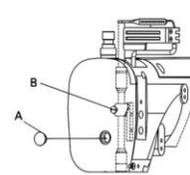

图14 (Fig.14)
- 2.打开上方侧盖橡胶塞(A),并松开螺钉(B),上下调整机针高度后在固定螺钉。(图14)
机针高度调整后,必须确定每一根针是通过针板孔中央。(图14)。
- 2.The position of needle bar can be adjusted by [1] removing rubber cap (A) and loosening nut (B) ,[2] moving needle bar up and down ,to proper position and [3] tightening screw (B) ,and insert in cap (A). (Fig.14)